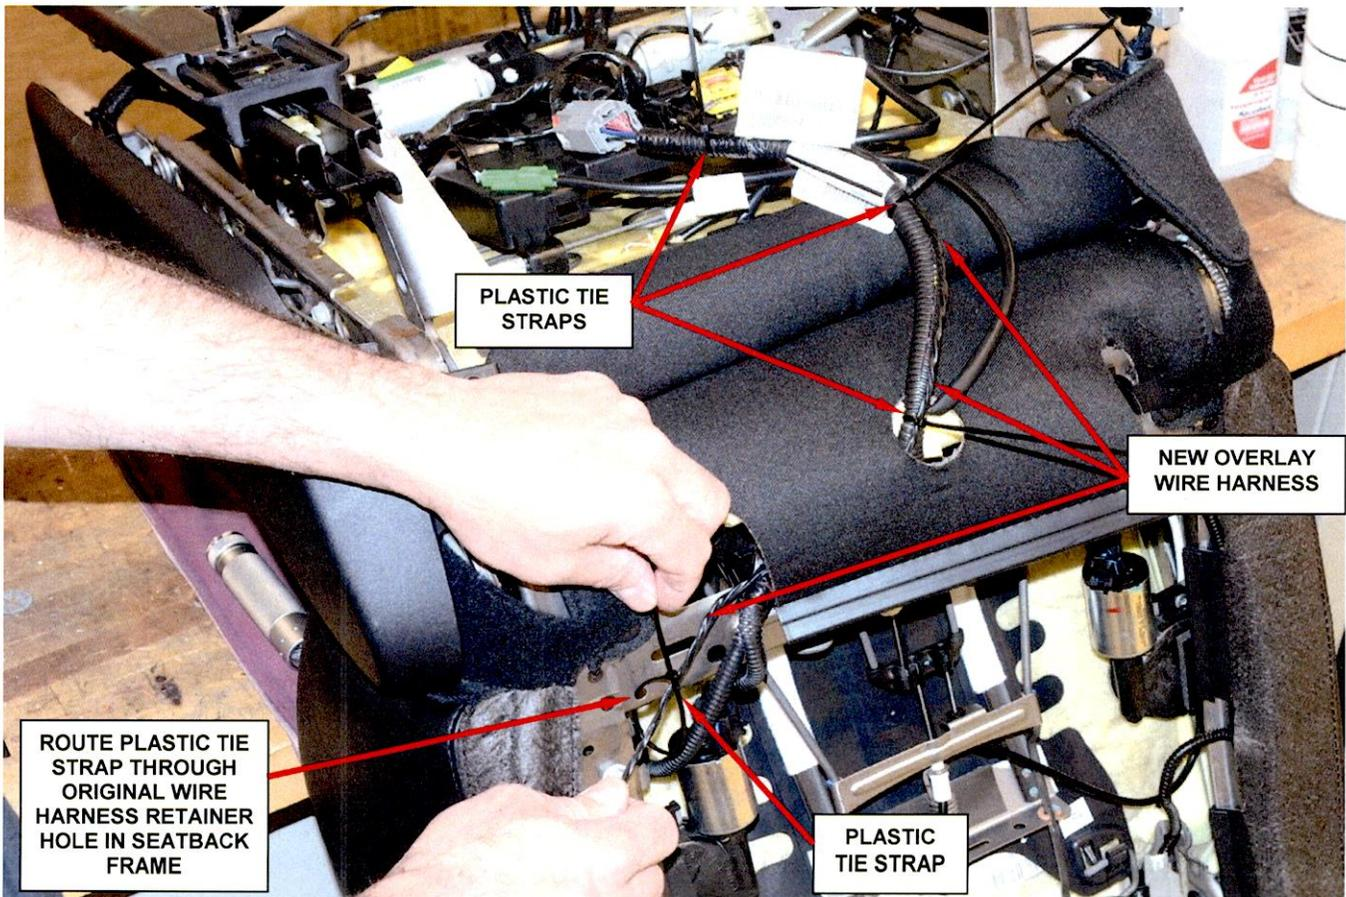

Figure 7 – Route and Tie Strap Overlay Wire Harness to the Original Wiring Harness (Except Challenger Right Side Front Seat)
- 15. Route the new airbag module overlay wire harness along the seatback (Figure 7).